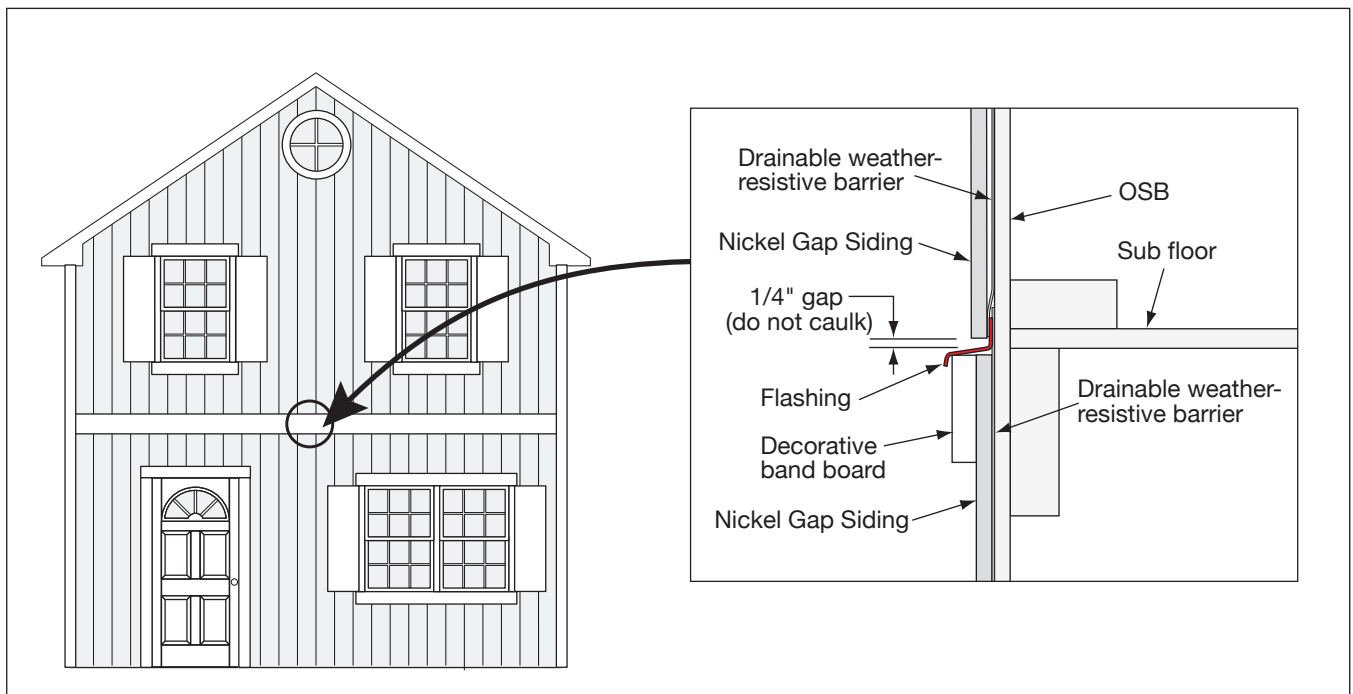

Fig. 22
- In situations where the height of the home requires more than one piece of siding installed vertically, it is required to install flashing at the end of each board. 1/4" minimum gap is required on top of all horizontal flashing (**Fig. 22**).
- TruExterior recommends to break the siding below the sub floor level on new construction (**Fig. 22**)